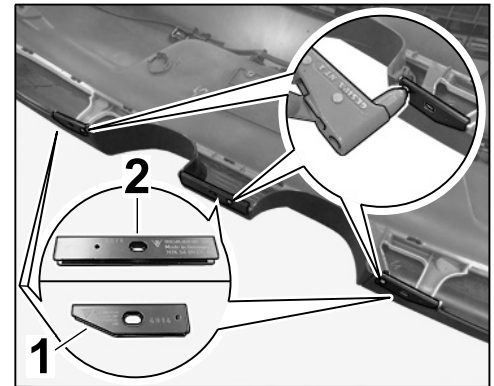

Figure 49
9.5 Secure center retaining strip ⇒ *Figure 49 -2-* and two retaining strips at the outside ⇒ *Figure 49-1-* to the rear apron using rivets.